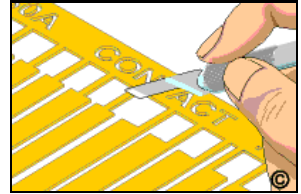

Figure 4: Cut out the new edge contact. Cut from the plated side.
8. Cut out and trim the new edge contact. Cut out from the plated side. Cut the length to provide the maximum allowable circuit overlap for soldering. Minimum 2 times the circuit width. (See Figure 4).